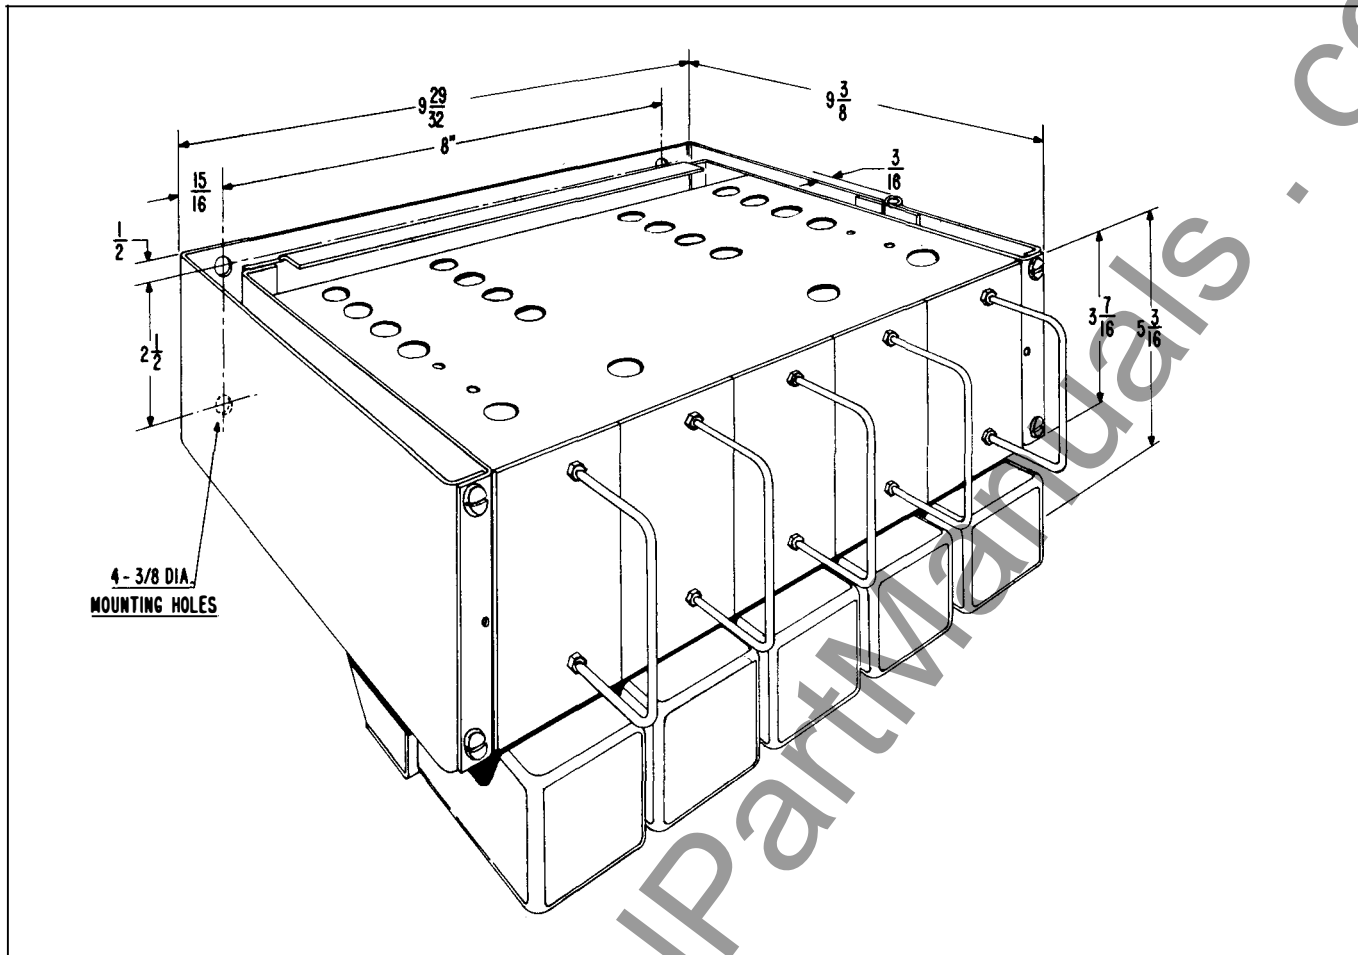

Fig. 5 - Outline and Drilling Plan of 5 Module Chassis
b) A five module wall mount chassis with a nominal overall size of  $5\frac{1}{4}$ " h x  $9\frac{15}{16}$ " w x  $10\frac{5}{8}$ " d. Module shelf swings out  $180^\circ$  for easy access to rear terminals. Outline and drilling dimensions are shown in Figure 5.